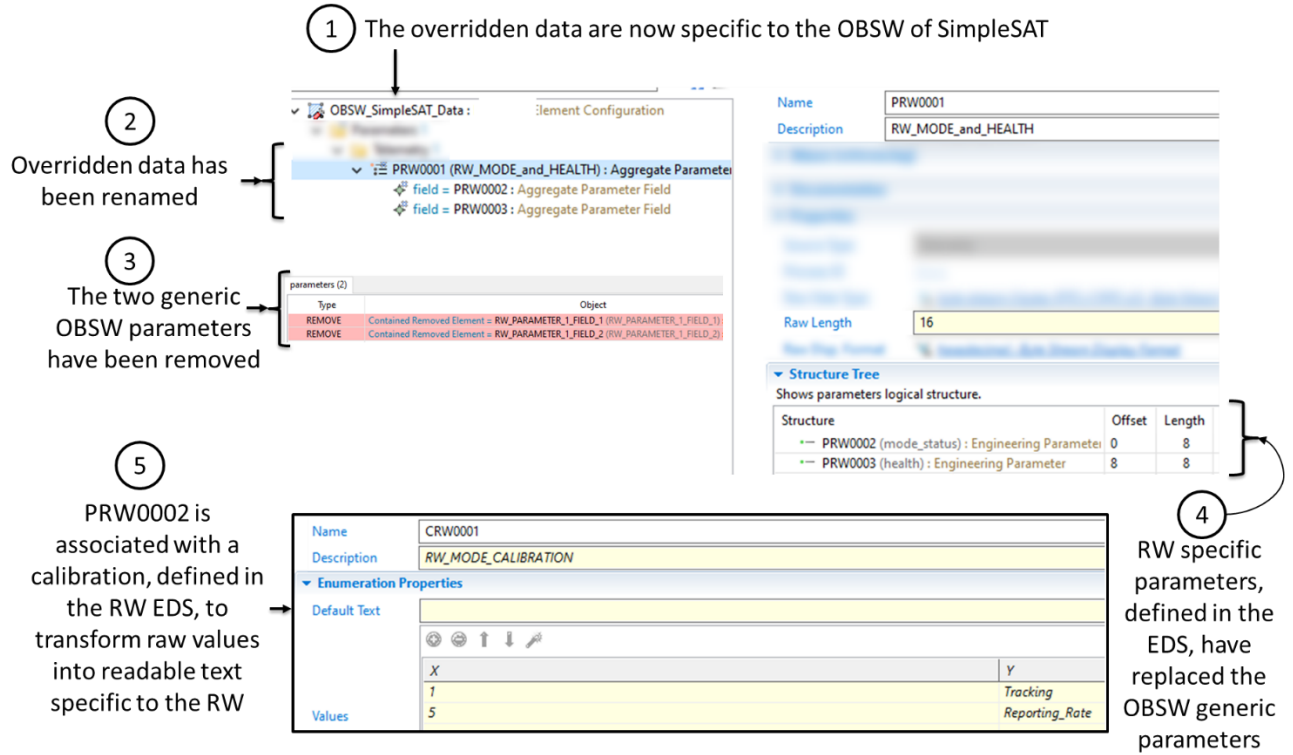

Figure-4: Mapping between SAVOIR-EDS file and its data imported in the SRDB
4. Besides the RW interface definition, if the SAVOIR-EDS that includes the mechanical view is imported into the SRDB, the result will be the comprehensive description of the RW in the SRDB as depicted in Figure-4.